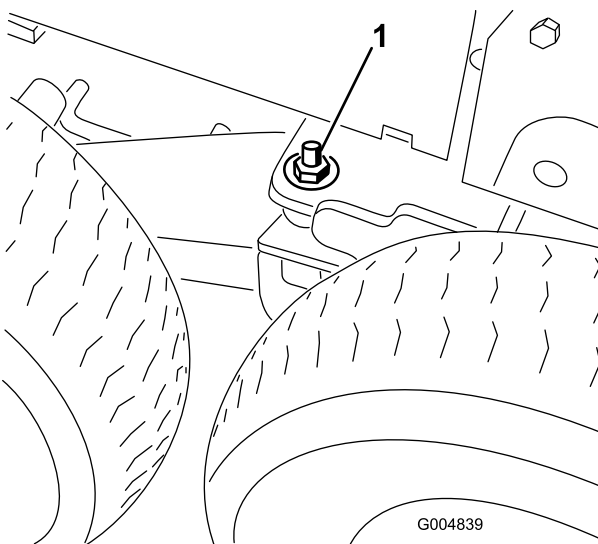

Figure 132
3. Loosen and remove the locknut and flat washer from the bogie pivot weldment (Figure 132).
inch) and locknuts on the bogie pivot stud (Figure 132). and torque to 75 ft-lb (102 N·m).